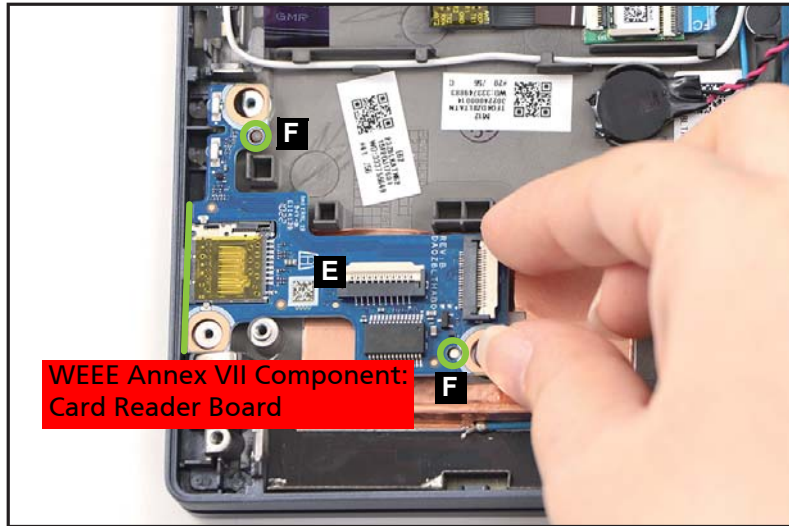

Figure 1-33. Card Reader Board Removal
5. Release the card reader board (E) from the card reader slot and guide pins (F) (Figure 1-33). Then remove the card reader board.